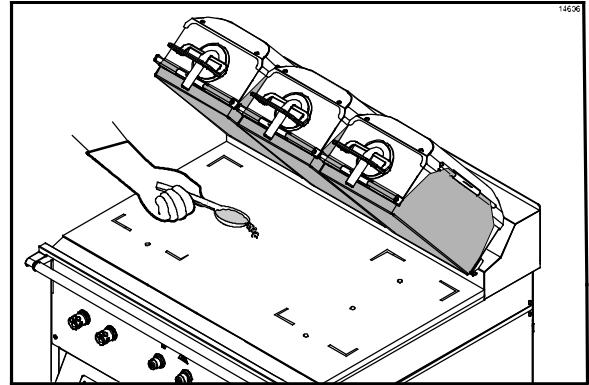

Figure 14
5. Using a sundae spoon, distribute two level spoonfuls of soy adhesion flakes over a warm 3 ft. (1 m.) grill surface, allowing the flakes to melt. (See Figure 14.)